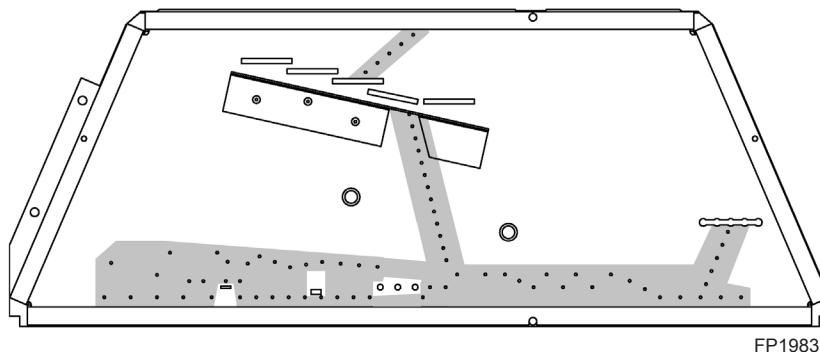

Figure 64 -
1. Distribute one layer of rock wool to cover all round burner ports. Do not cover rectangular slots, located in front and rear. *Figure 64*